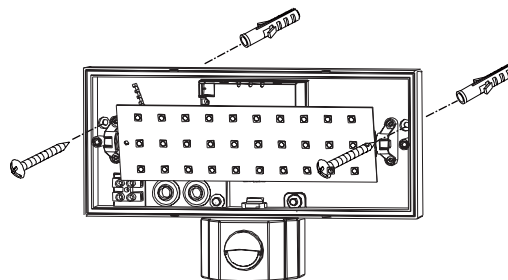

Fig.4b
- If it is not a wooden wall, please refer to step 2. (as Fig.4b)